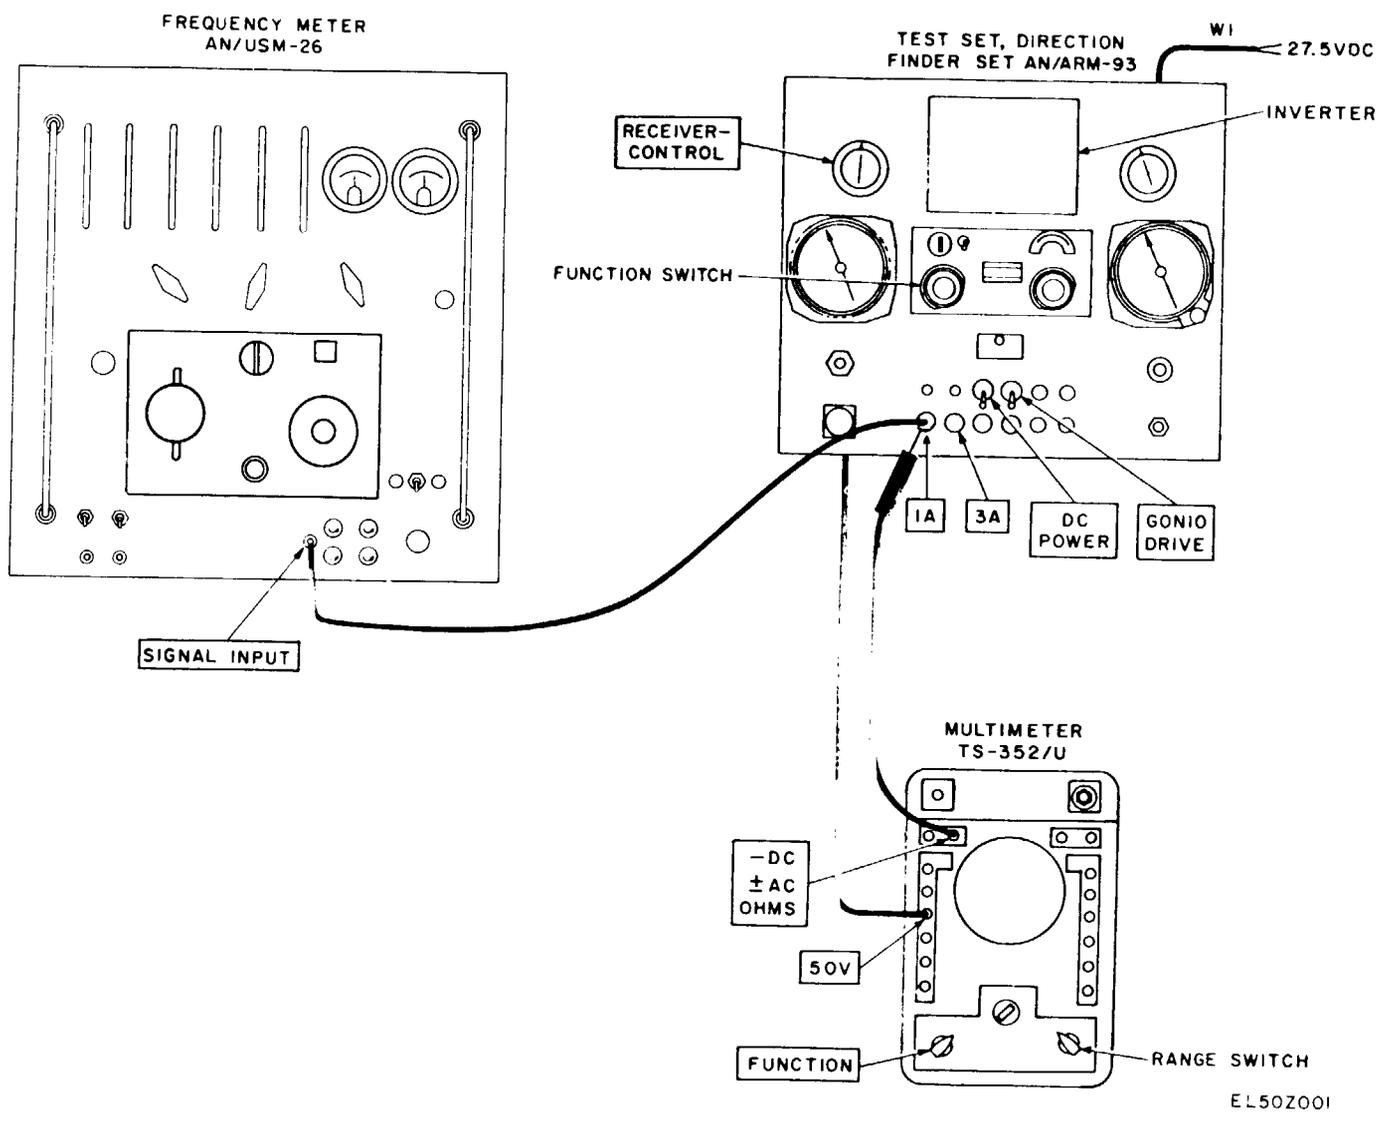

Figure 4-9. Inverter test.
- (1) Test Set, Direction Finder Set AN/ARM-93.
- (2) Multimeter TS-352/U.
- (3) Frequency Meter, AN/USM-26.
*b. Test Connections and Conditions.* Connect the test equipment as shown in figure 4-9. The inverter can be inserted directly into the AN/ARM-93 or connected by means of cable W4 (part of AN/ARM-93).